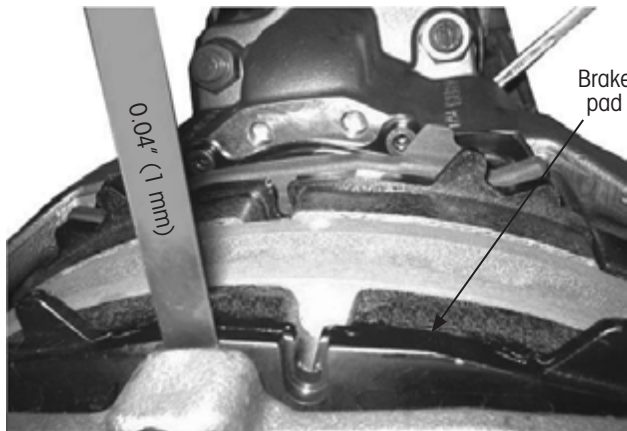

Figure 33: Checking brake pad clearance
8. **Measure and adjust** the clearance using a 0.04" (1 mm) feeler gauge (Figure 33):
- A. **Insert** the feeler gauge between the outboard brake pad and the brake caliper as shown in Figure 33.